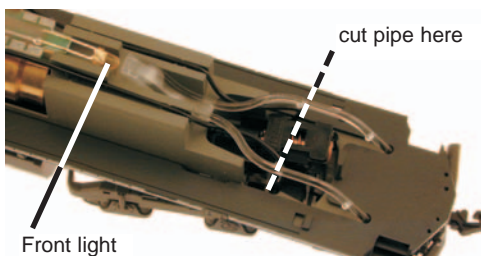

Figure 5. Light pipe modification
2. Cut the light pipe assembly as shown in *Figure 5*. You will end up with two separate light pipes: one for each of the ditch lights.